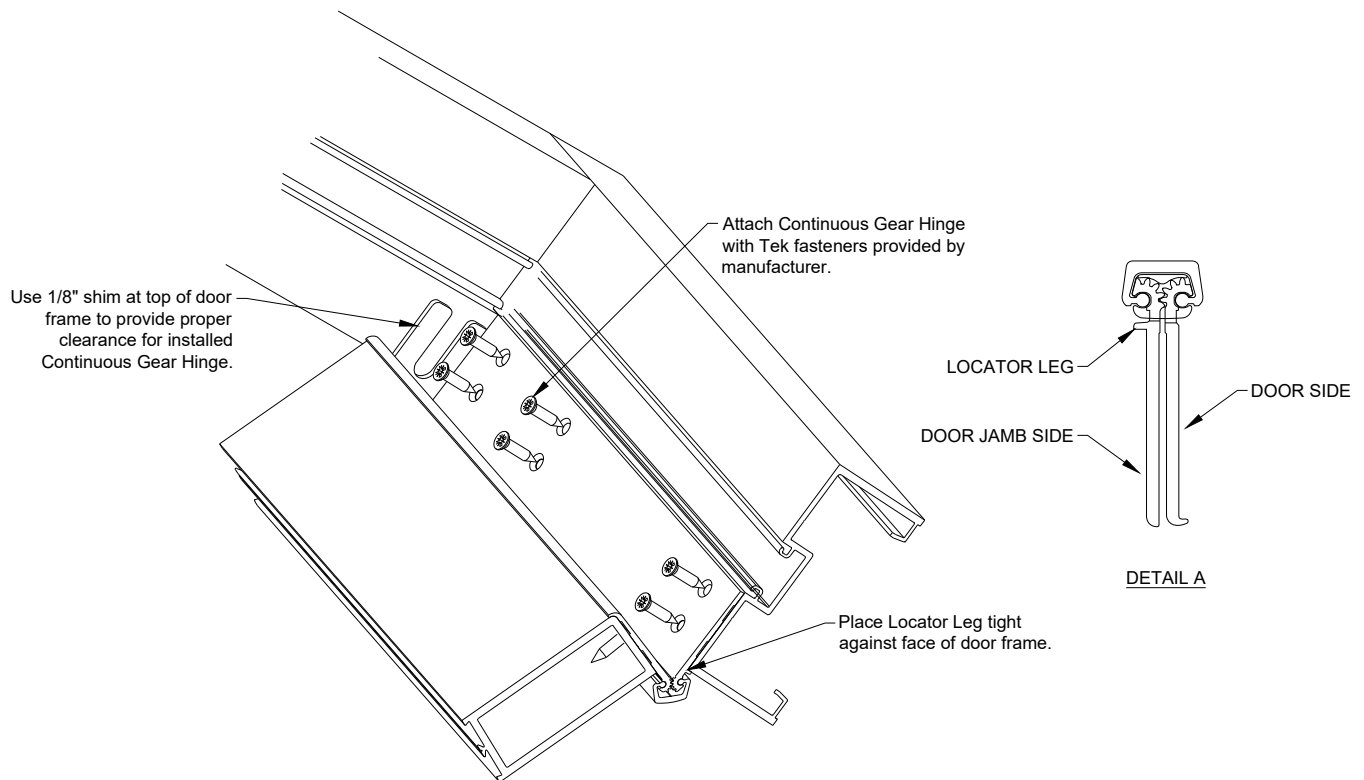

Figure 32: Hanging Door with Continuous Gear Hinge
- 14.2 Align Continuous Gear Hinge to Door Jamb by using the locator leg as a guide. Locator leg is identified in *Figure 32 Detail A*.